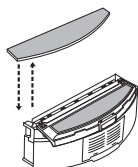
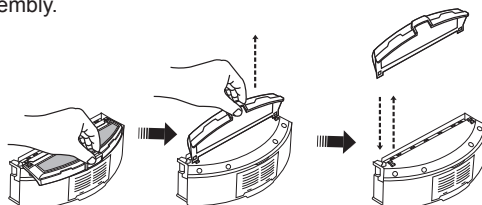

Figure 8
Figure 9
6. Reverse the dustbin, tear out the mop, release the trailing bar and then unclip the right and left fasteners on the bottom of the dustbin (Refer to Figure 8 and Figure 9). All parts should be assembled as before disassembly.